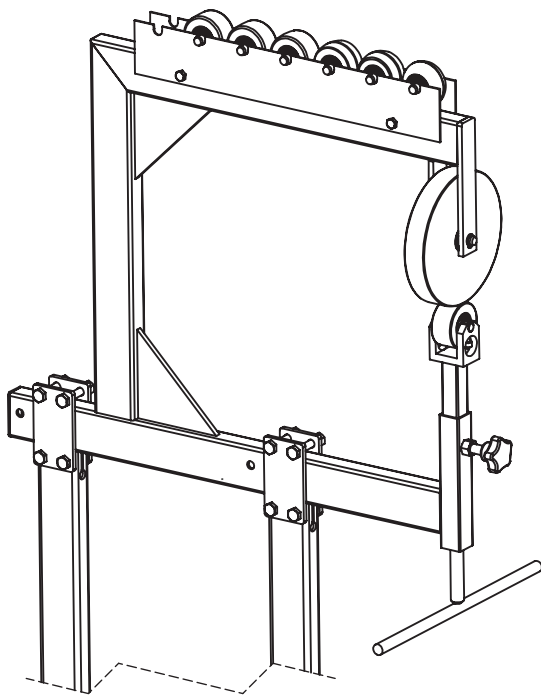

Figure 1
6. Mount the English Wheel to the assembled Stand using Bolt M8X50 (5#), Washer 8mm (7#), Spring Washer 8mm (8#) and Nut M8 (9#). (Figure 1)